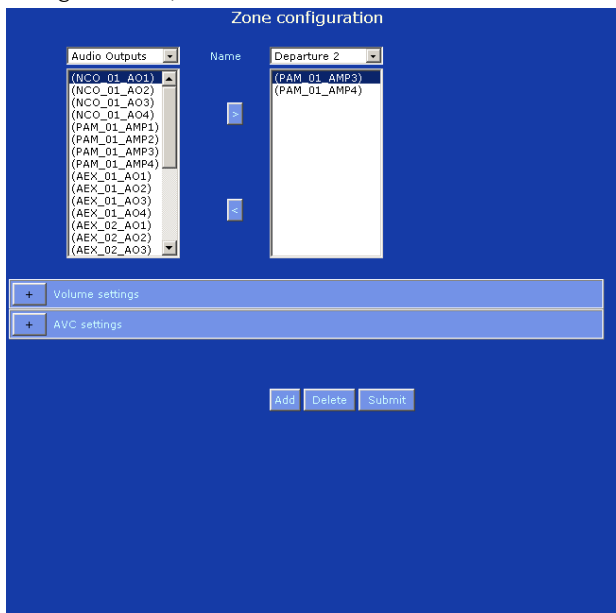

figure 36.12: Delete zone, step 2
- 2 Select the zone that must be deleted from the *Name* dropdown list. For example, *Departure 2* (see figure 36.12)